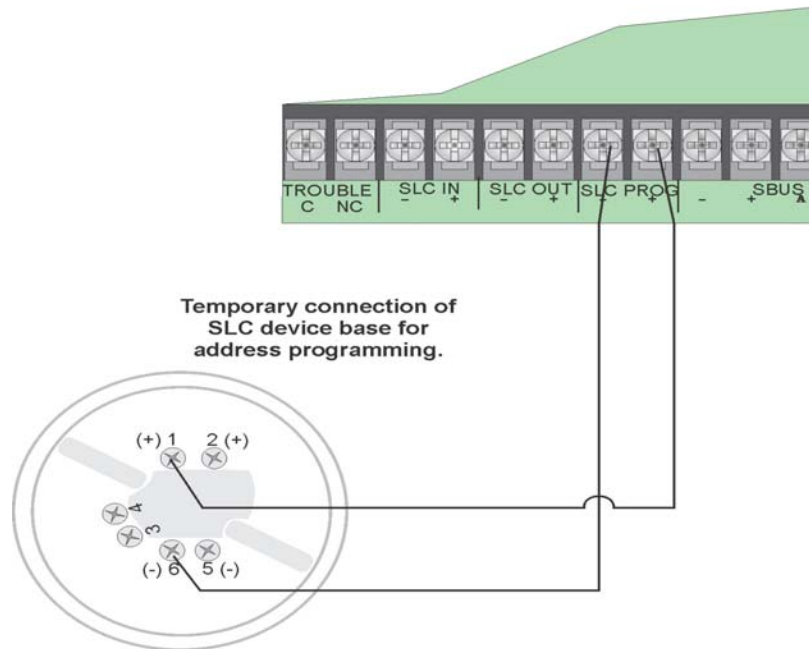

Figure 7.71 Temporary Connection of Detector Base to Panel for Addressing
1. Connect a detector base temporarily to the programming terminals as shown in Figure 7.71. (You can use the same base for each detector.)